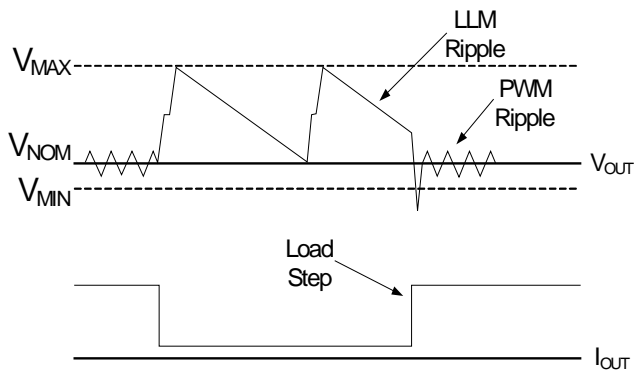
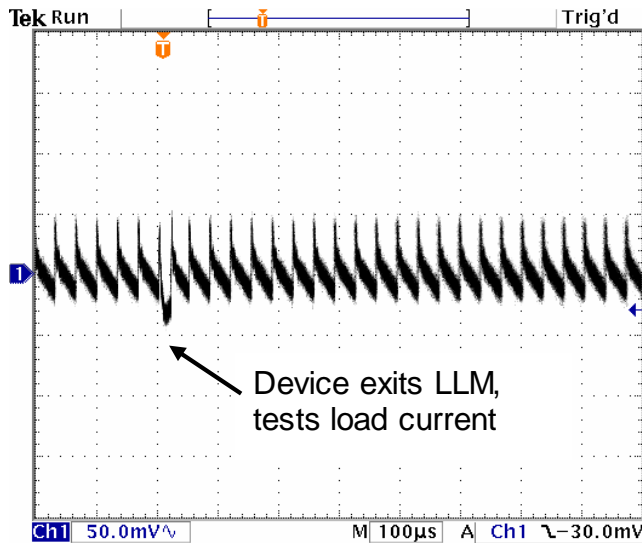

Figure 6: V_{OUT} Behavior in LLM Operation
Figure 7: V_{OUT} Droop during Periodic LLM Exit
The EP53A7xQI uses a proprietary light load mode to provide high efficiency in the low load operating condition. When the LLM pin is high, the device is in automatic LLMPWM mode. When the LLM pin is low, the device is in PWM mode. In automatic LLMPWM mode, when a light load condition is detected, the device will (1) step V_{OUT} up by approximately 1.5% above the nominal operating output voltage setting, V_{NOM} , and then (2) shut down unnecessary circuitry, and (3) monitor V_{OUT} . When V_{OUT} falls below V_{NOM} , the device will repeat (1), (2), and (3). The voltage step up, or pre-positioning, improves transient droop when a load transient causes a transition from LLM mode to PWM mode. If a load transient occurs, causing V_{OUT} to fall below the threshold V_{MIN} , the device will exit LLM operation and begin normal PWM operation. Figure 6 demonstrates V_{OUT} behavior during transition into and out of LLM operation.
Many multi-mode DCDC converters suffer from a condition that occurs when the load current increases only slowly so that there is no load transient driving V_{OUT} below the V_{MIN} threshold (shown in Figure 6). In this condition, the device would never exit LLM operation. This could adversely affect efficiency and cause unwanted ripple. To prevent this from occurring, the EP53A7xQI periodically exits LLM mode into PWM mode and measures the load current. If the load current is above the LLM threshold current, the device will remain in PWM mode. If the load current is below the LLM threshold, the device will re-enter LLM operation. There will be a small droop in V_{OUT} at the point where the device exits and re-enters LLM, as shown in Figure 7.